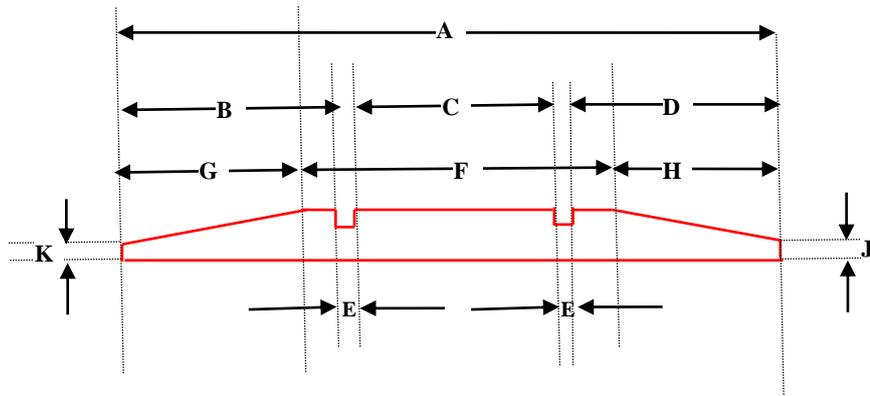

Figure 26: Foremast Crosstree Dimensions
2. **Create the mast heel from other timber** and then glue + pin to the round mast. More work but the procedure is not too difficult. However, the **foot dimensions of 9.5 x 9.5 mm.** is intriguing when the width between the trestletrees is only **8 mm.** It was assumed that the larger measurement was only approximate and would be adjusted to fit into the '8 mm.' space. Refer to Fig. 26.